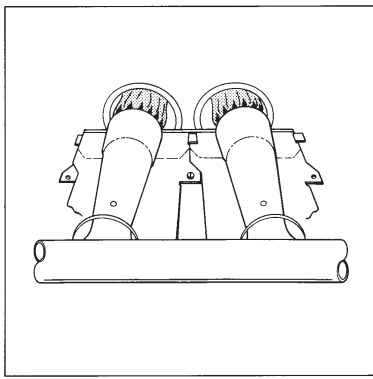

Fig. 1 - Burner Flame Adjustment
6. The burner flames are in good adjustment, See Fig. 1 (by comparison with pictorial sketches or drawings of the main burner flame and, if applicable, the pilot burner flame).